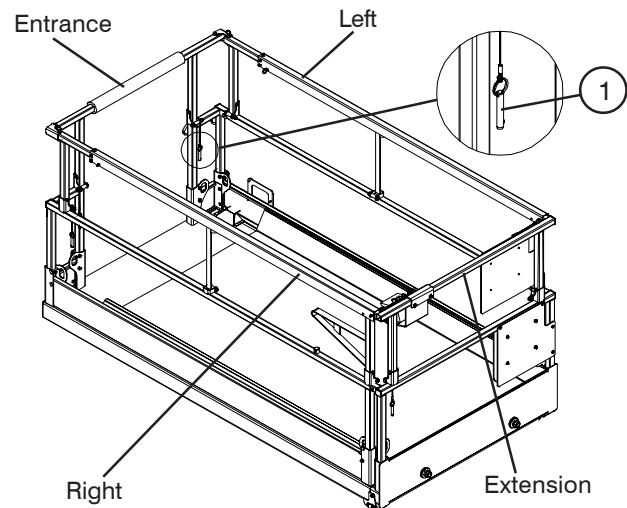

Figure 2-12a. Folding Guardrail System
3. Fold down the guardrails in the following order: right-hand side, left-hand side, entrance, and extension (refer to Figure 2-12a).